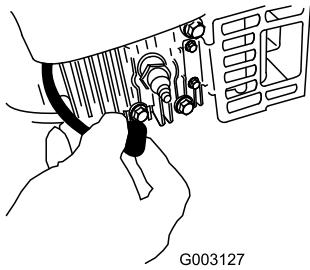

Figure 33
- Disconnect the spark-plug wire from the spark plug (Figure 33) before performing any maintenance procedure.